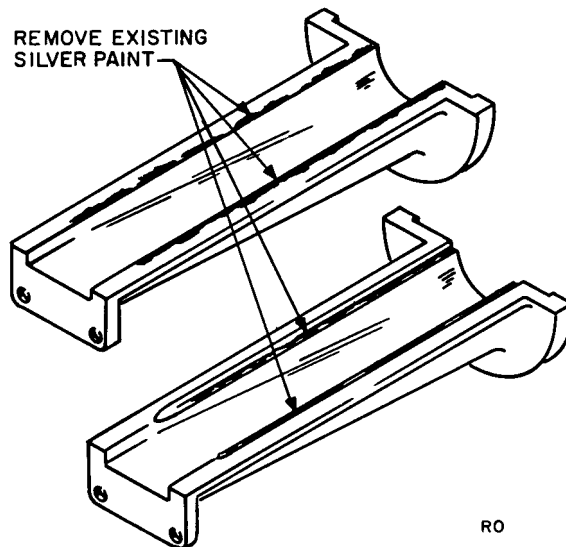

Figure 13 *Removal of Silver Paint from End Section*
4. Refer to Figure 13. Remove silver paint from both halves with acetone.